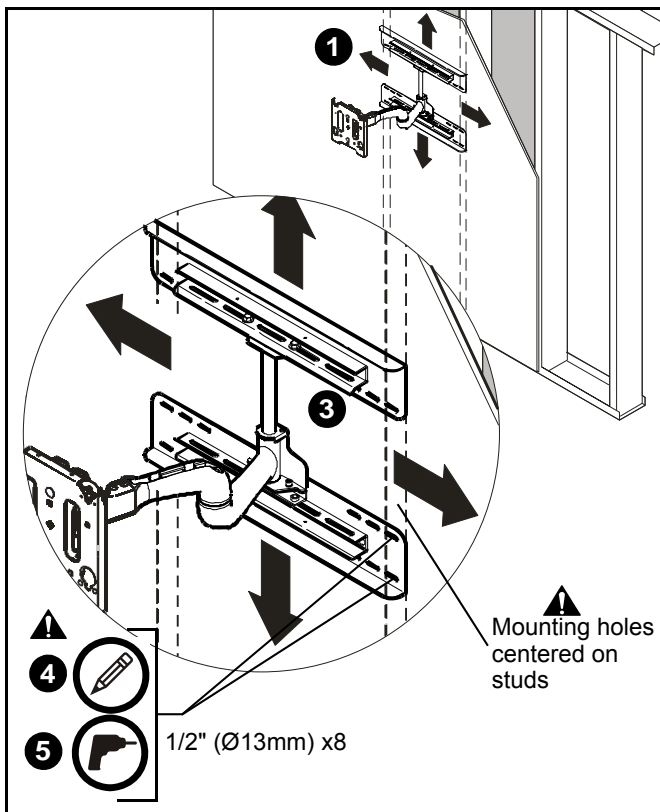

Figure 2
3. Align mounting holes in mount with studs making sure mounting holes are centered on studs. (See Figure 2)
WARNING: IMPROPER INSTALLATION CAN LEAD TO EQUIPMENT FALLING CAUSING SERIOUS PERSONAL INJURY OR DAMAGE TO EQUIPMENT! Make sure upper and lower mounting holes are used on both sides of both the upper and lower wall plates. (See Figure 2)
5. Drill eight 1/2" (Ø13mm) holes. (See Figure 2)